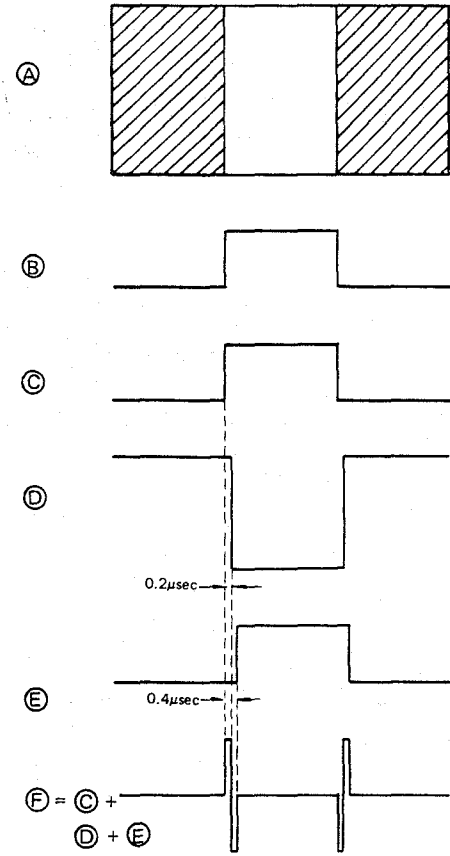

Fig. 59 Horizontal Aperture Signal
The luminance ( $Y_H$ ) signal having high frequency response is supplied to the base of Q3204 through buffer Q3205 inside IC305. When the camera is pointed at an object (A), for example, the  $Y_H$  signal (B) is supplied to the base of Q3204. At this time, signal (C), passed through R3209 and R3205, signal (D), delayed 0.2 $\mu$ s by delay line DL302, and signal (E), which results from the delayed  $Y_H$  signal being reflected back through DL302 and delayed again (0.4 $\mu$ s) appear at the collector of Q3202, where they are mixed in fixed proportions to make up the H aperture signal (F). (See Fig. 59).